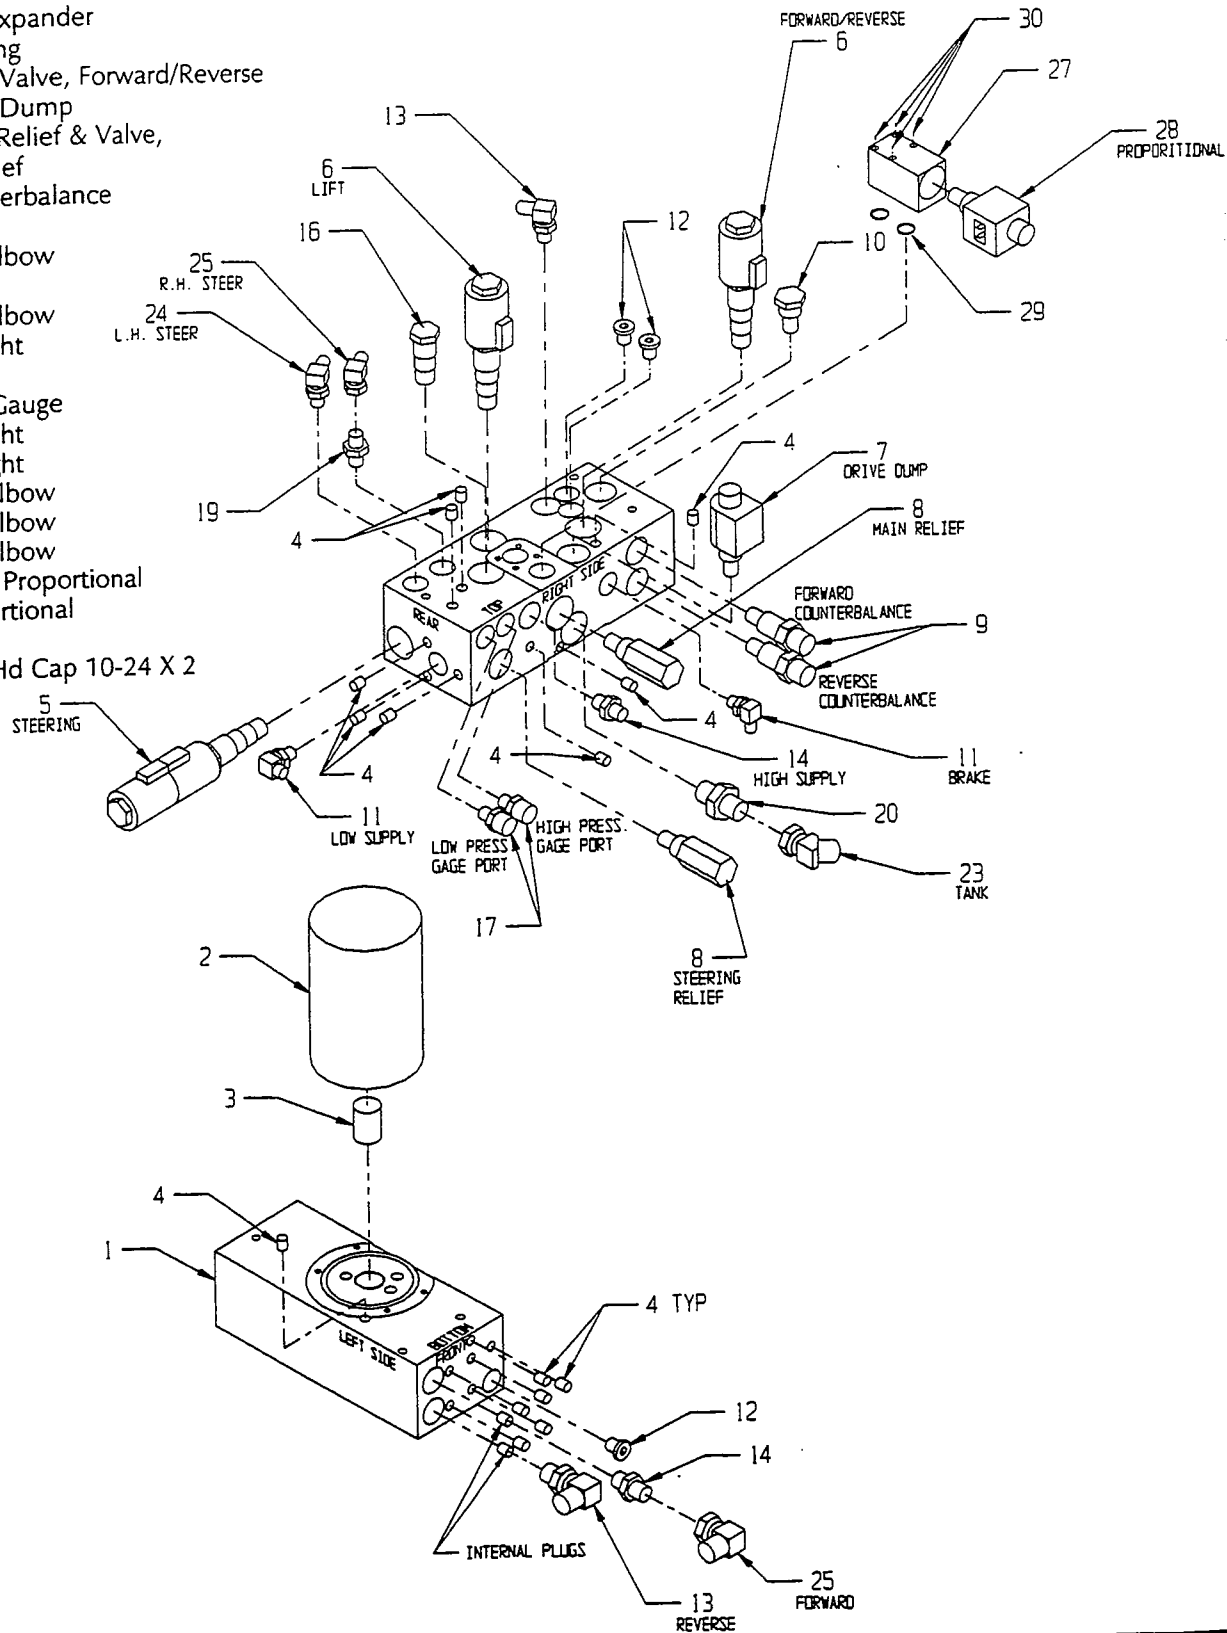

Figure 4-9: Hydraulic Manifold, Exploded View
4.7 Hydraulic Manifold (Figure 4-9)
NOTE: Mark all components as they are removed so as not to confuse their location during assembly. Refer to Figure 4-9 often to aid in disassembly and assembly.